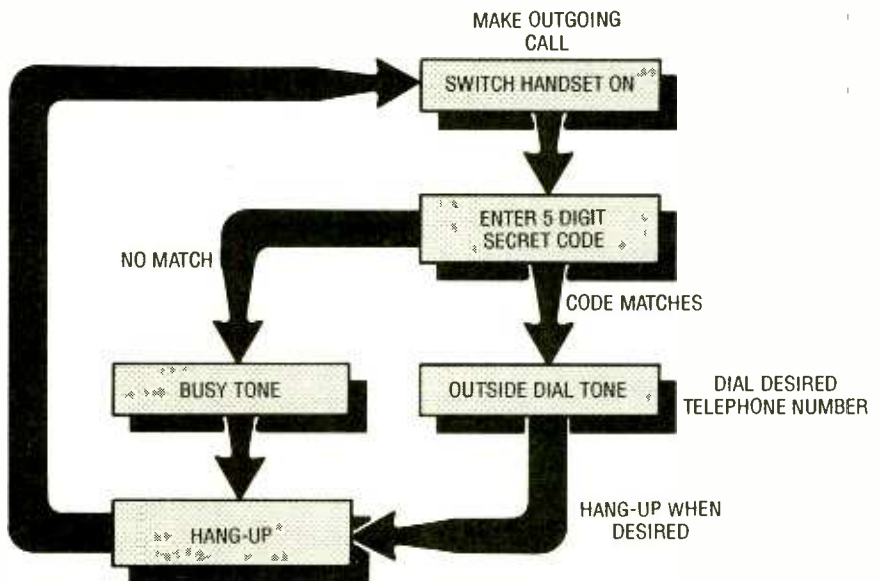

Fig. 6. To make an outgoing call, the proper access code must be entered via the handset keypad. If it is entered incorrectly, the circuit will deny access.
**Outgoing Calls.** Refer to Fig. 6. Now that the project has an access code stored in memory, access to the telephone line will only be allowed upon
The output voltage may be on the order of only a few dozen millivolts at some frequencies. As a result, it might be necessary to add a noninverting amplifier to the output of the integrator (Fig. 6). The gain of the amplifier should be adjusted to permit a reasonable voltage for the display ( $V_o$ ) by selecting resistor values according to: